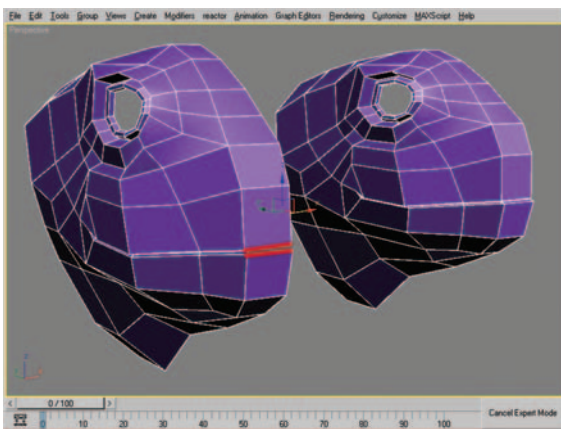

Figure 9.30 Edge selection and resulting mesh after shift-dragging the edges.
30. Select the two edges omitted from the selection in the last step and shift-drag them back. Try to match the approximate distance you moved the edges in the last step (Figure 9.30).